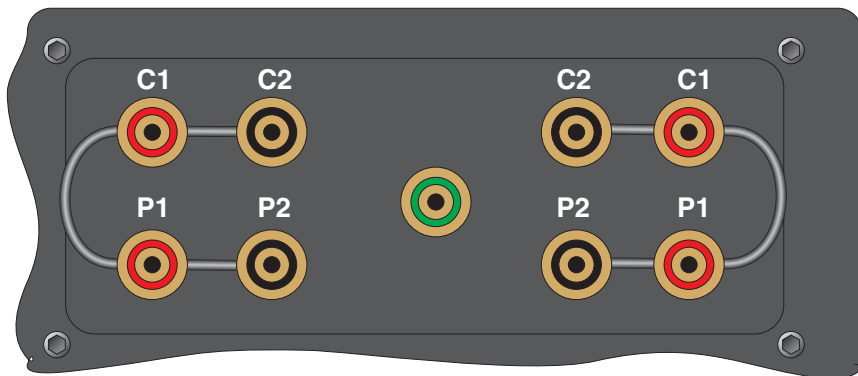

Figure 50 Using a Shorting Wire
1. Connect a 0 $\Omega$  resistor to the input and measure its resistance. If a shorting wire is used the wire should run from the C2 terminal to the C1 terminal to the P1 terminal to the P2 terminal (See Figure 50). Note the average error in the measurement. Adjust the C0 parameter by subtracting the measured error. For example, if the input is exactly 0.0000 and the readout shows -0.0011, adjust the C0 parameter by adding 0.0011.
1. Connect a 0 $\Omega$  resistor to the input and measure its resistance. If a shorting wire is used the wire should run from the C2 terminal to the C1 terminal to the P1 terminal to the P2 terminal (See Figure 50 on page 132). Note the average error in the measurement. Adjust the C0K parameter by subtracting the measured error. For example, if the input is exactly 0.0 $\Omega$  and the readout shows -0.11 $\Omega$ , adjust the C0K parameter by adding 0.11.